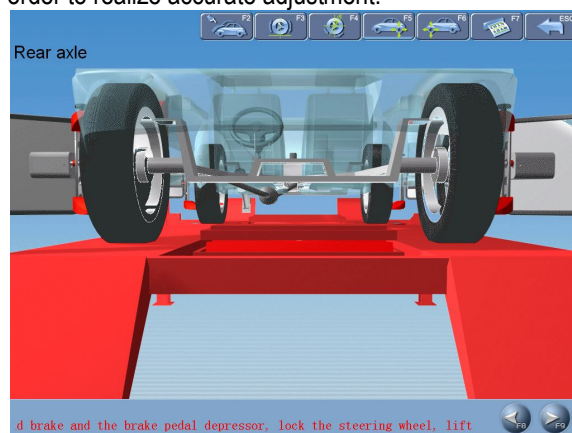

Fig.4.19
- The vehicle is now in put-down status (position B1). Adjust the vehicle front toe-in to the allowed scope according to the standard specifications (see Fig.4.19). Put up the vehicle with the special tools equipped according to the prompts on the screen. Click [NEXT] button, the screen will display the interface as shown in Fig.4.23.